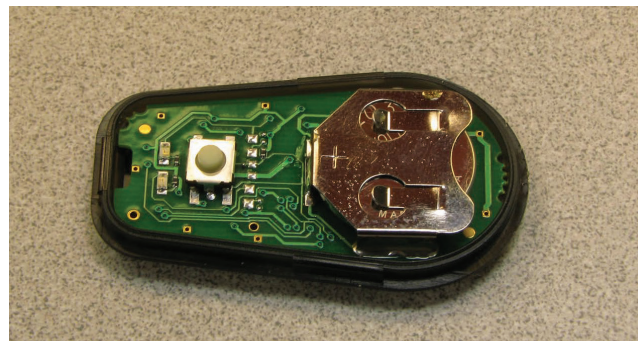

Figure 4: Set Board in Back Case
6. Set the circuit board into the back case. See Figure 4.